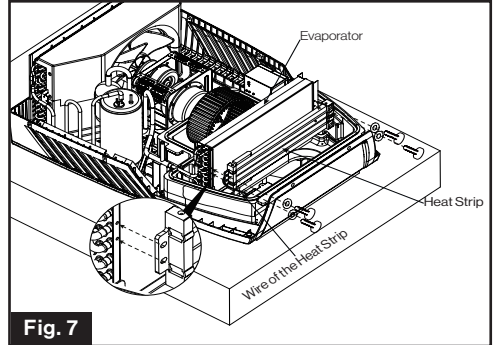

Fig. 7
holes on each side. (Fig. 7)
9. Insert four screws with washers into these holes. And then fasten them. (Fig. 7)